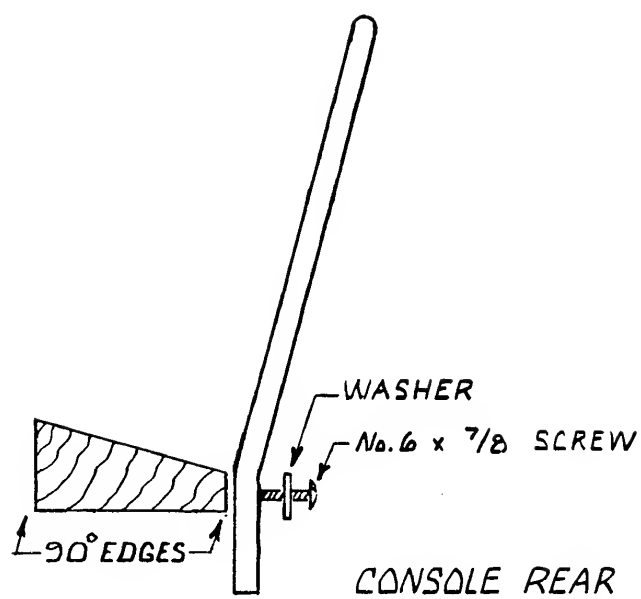

FIG. 2-6
- 1) Attach the wooden copy rest to the plexiglass, using the four 7/8 inch (22 mm) wood screws and the four flat washers. Pilot holes have been provided in the copy rest for ease of assembly. See Fig. 2-6.